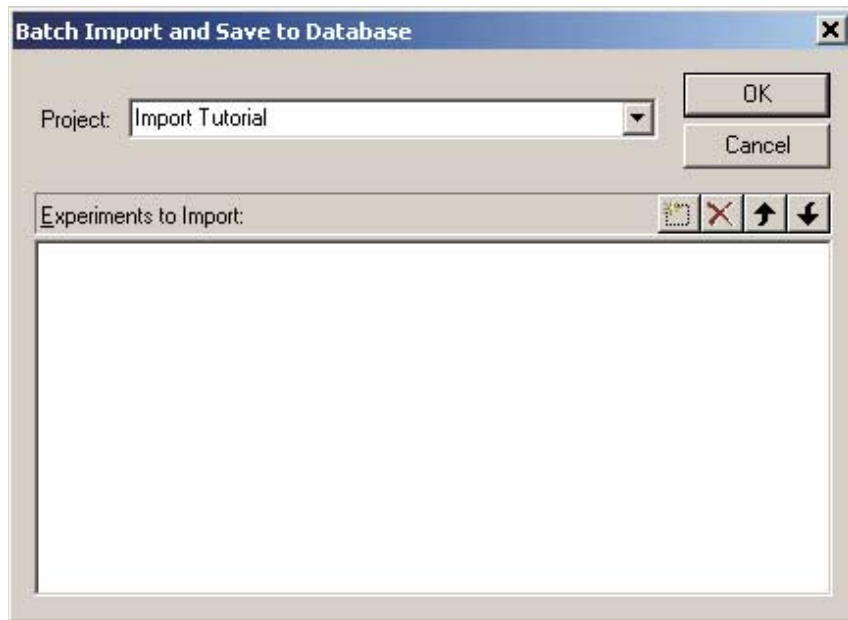

Figure 5-3: The *Batch Import and Save to Database* dialog.
1. Select **Batch...** from the **File | Import** menu to open the **Batch Import and Save to Database** dialog (Figure 5-3).